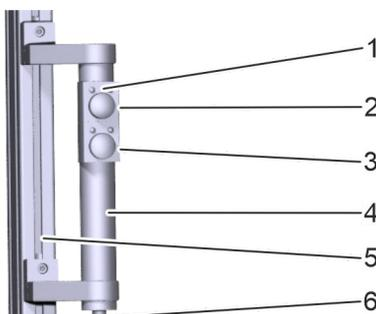

Fig. 17: Operation
⇒ The LED above the buttons lights up green (Fig. 17/1).
The LED above the control unit lights up red (Fig. 17/1).
7. ➤ Move the tool in the raised position to the next bolted connection in the lifting device. To do this, use the handles (Fig. 17/4) on both sides.